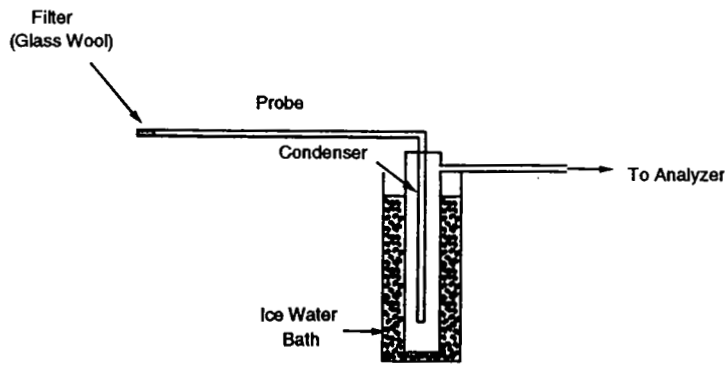

Figure F10-1. Continuous Sampling Train.
1. Set up the equipment as shown in Figures F10-1 and F10-2. Ensure that all connections are leak free.